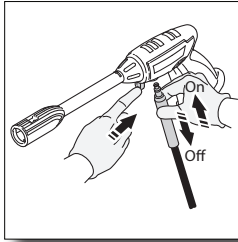

Fig. 4
- Connect the other end of the high pressure hose to the spray gun by inserting the silver metal tip of the high pressure hose into the fitting under the trigger guard. It will lock into the spray gun with a “click” (Fig. 4). Confirm the hose is locked into the spray gun by pulling slightly on the hose. The hose is now securely attached to the spray gun.
- To release the hose from the spray gun, press the thumb tab on the underside of the spray gun toward the trigger guard. The hose will slide out from the connection. (Fig. 4)